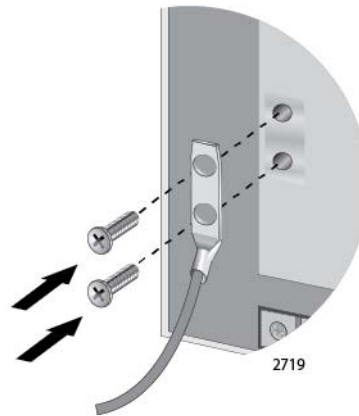

Figure 49. Installing the Grounding Lug and Wire
4. Install the grounding lug on the rear panel of the chassis, as shown in Figure 49.